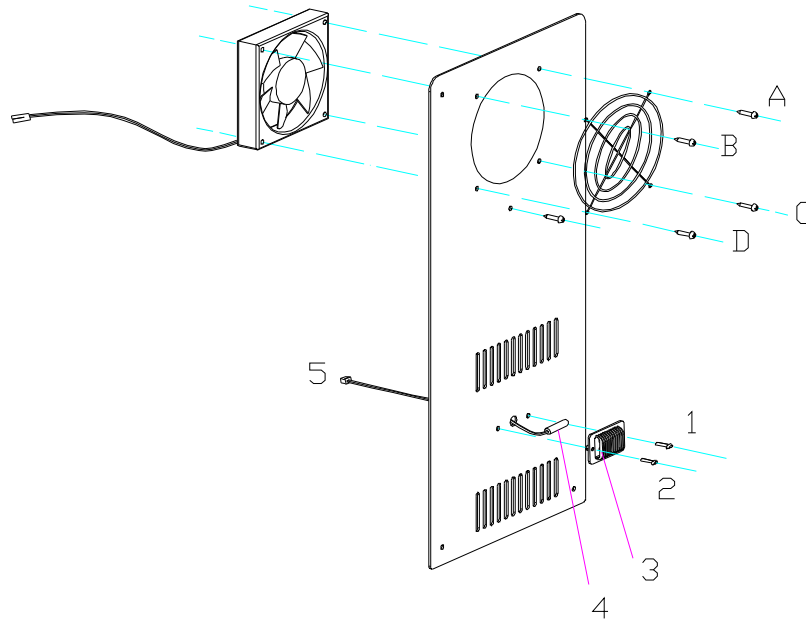

Fig.8
2 >. The LED display shows E7, and it is the left zone's sensor open circuit fault, check the connection wire and the main board whether open circuit, if not, replace the sensor with the same module. See(Fig.8.)
3 >. The LED display shows E8, and it is the left zone's sensor short circuit fault, check the connection wire and the main board whether short circuit, if not, replace the sensor with the same module. See(Fig.8.)
4 >. The LED display shows E1, and it is the right zone's sensor open circuit fault, check the connection wire and the main board whether open circuit, if not, replace the sensor with the same module. See(Fig.8.)
5 >. The LED display shows E2, and it is the right zone's sensor short circuit fault, check the connection wire and the main board whether short circuit, if not, replace the sensor with the same module. See(Fig.8.)
C. Push and then pull out the two plastic nails(1,2),the sensor cover(3) come loose, disconnect the connector(5) of the sensor, and replace it(4). ( Fig.8)